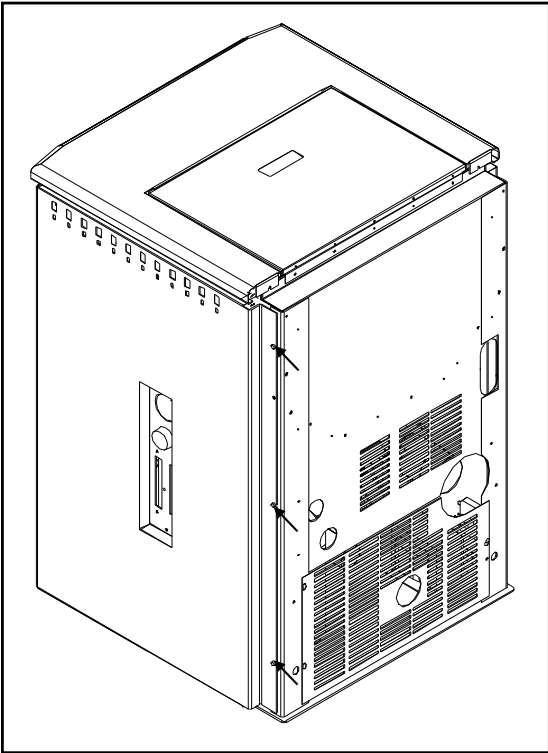

Figure 7
1. Loosen the three (3) screws from both sides on the back of the appliance (see Figure 7).